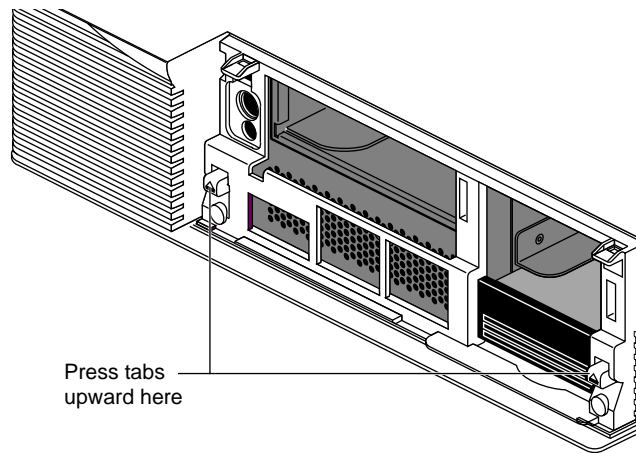

Figure 3-20 Releasing the Top Cover
- Press up on the tabs on each side of the drive openings as shown in Figure 3-20.